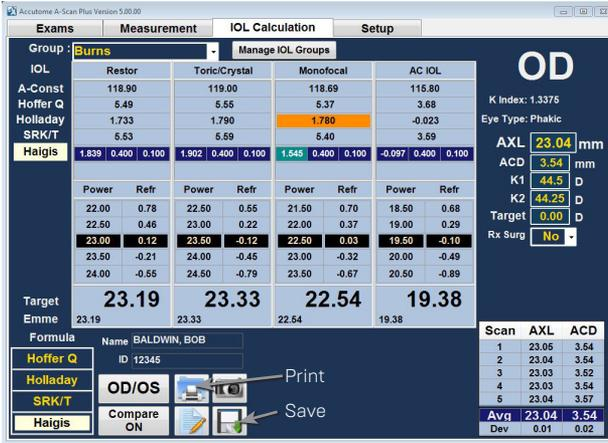

Figure 3.26 - Saving a Report
1. Click on the “Printer” button as shown in figure 3.26 below.
1. To save the report, click on the “Save” button as shown in figure 3-26 below.